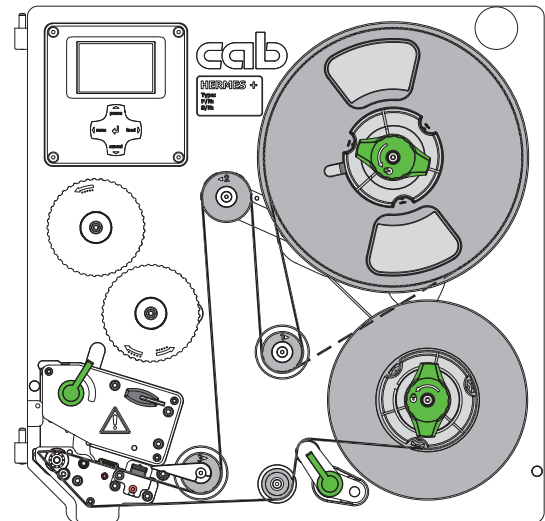

Fig. 11 Label feed path
1. Turn lever (4) counterclockwise to lift the printhead (2).
2. Move the guide (6) to the outermost position by turning the spindle (7) with the Allen key (8).
4. Guide label strip (5) to the print unit as shown in Fig. 11. The broken line shows the path for inside wound labels.
5. Guide label strip through the label sensor (3) to the peel-off edge.
6. Move the guide (6) against the label strip by turning the spindle (7).
7. Forward the label strip over the peel-off edge (1), that the strip reaches back internal rewriter. Remove the labels from the overhanging strip.